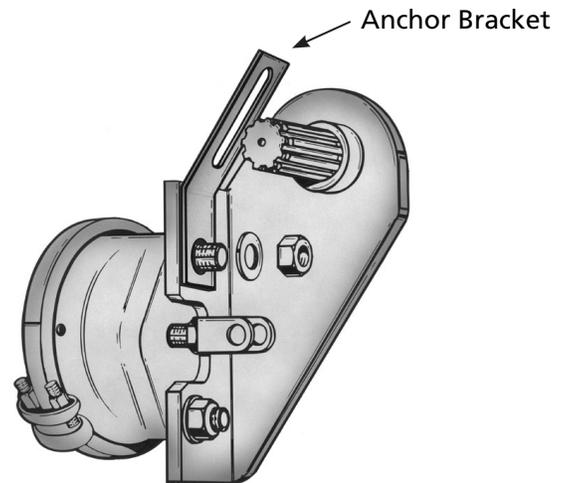

Figure 13
- Install anchor bracket loosely as illustrated in Figure 13.